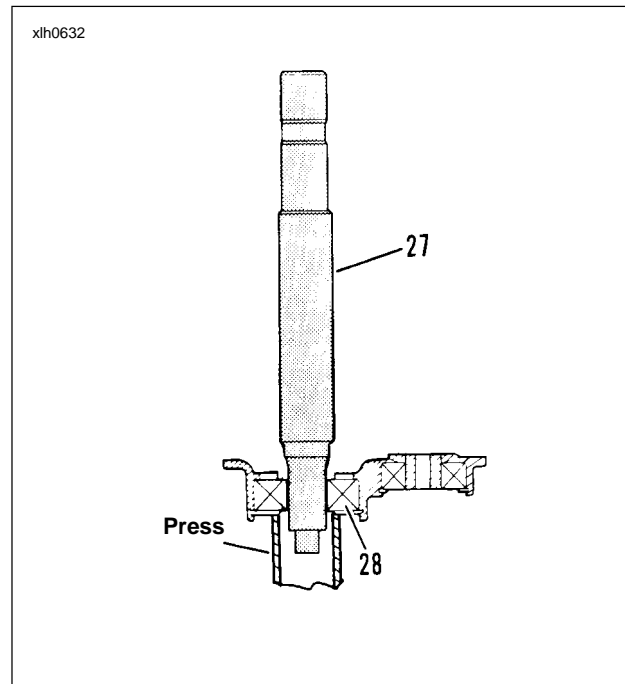

Figure 6-42.
- Find a section of pipe that matches the inner race of mainshaft bearing (28). See Figure 6-42. Place the door assembly, outside downward, on a press with the inner race of bearing (28) resting on the section of pipe. Insert the splined end of the shaft through the bearing and hold in a vertical position. Press the shaft into the bearing until the bearing bottoms against the shaft shoulder.